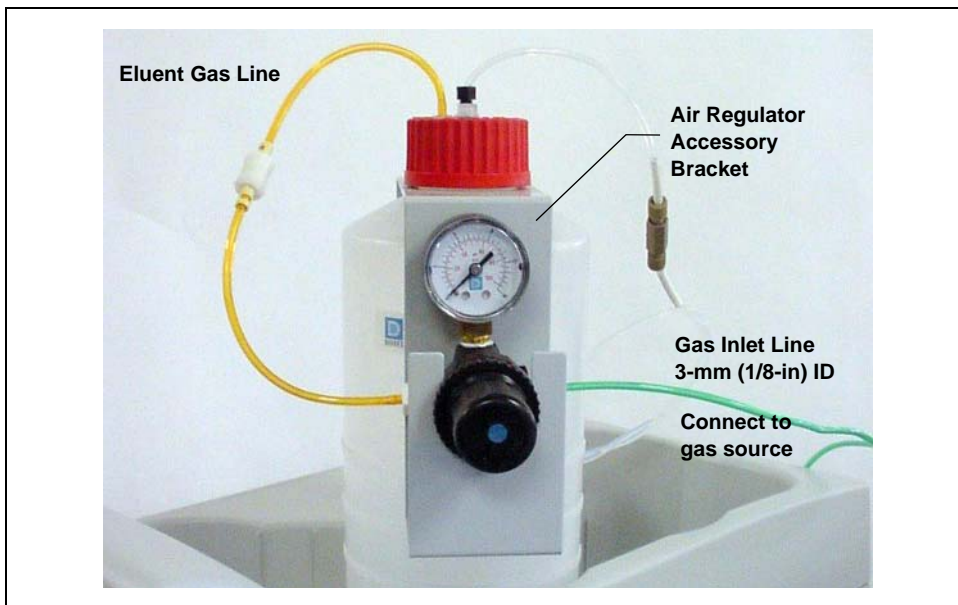

Figure 47. ICS-1500 Pressurized Eluent Reservoir Connections (Optional)
3. Push the other end of the tubing onto the inlet of the air regulator (see Figure 47).
6. Slip the air regulator accessory bracket over the neck of the eluent reservoir (see Figure 47).